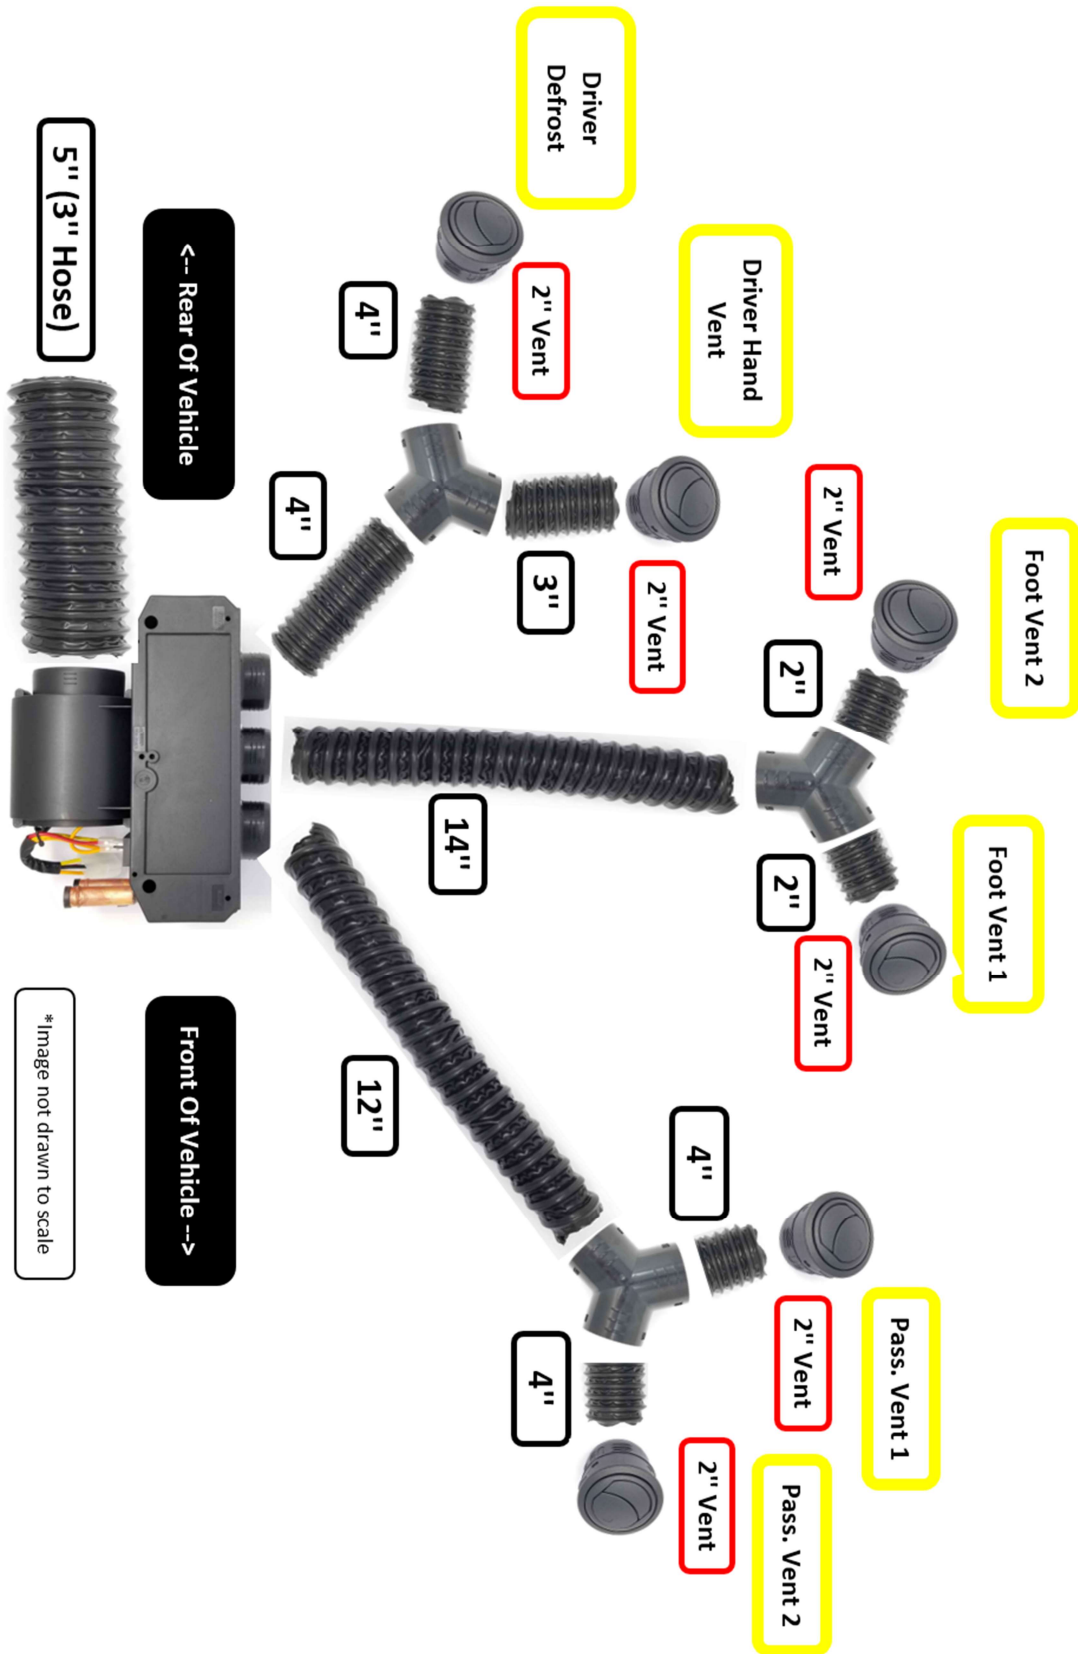

Figure 28
- a. Use Figure 28 as a guide to cut the 2" Duct Hose. All measurements refer to the hose length in a compressed state. It's easiest to place an extended tape measure on a table and then use two hands to compress the hose to length. Use a pliers to cut the metal reinforcement wire and cut the plastic lining. Assemble the three hose legs using zip ties to secure each connection. Do not attach the vents at this time.